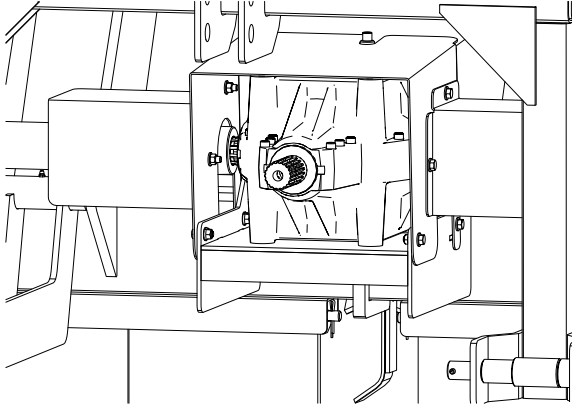

Figure 46. Gearbox Input Shaft
8. Install PTO driveline by sliding the yoke with the slip clutch over the input shaft (Figure 46).